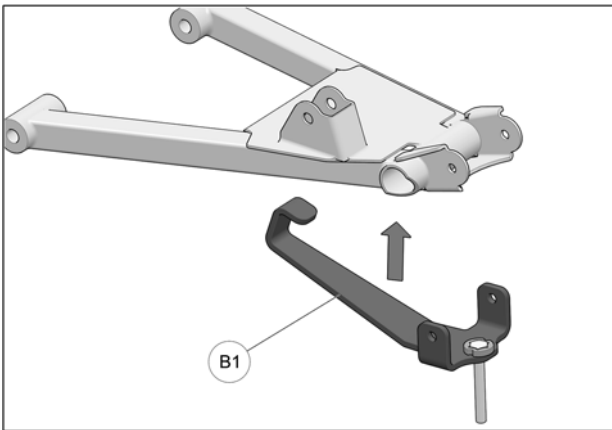

Fig. 6
6. Lift anchor bracket (B1) up to lower suspension arm. See Fig. 6